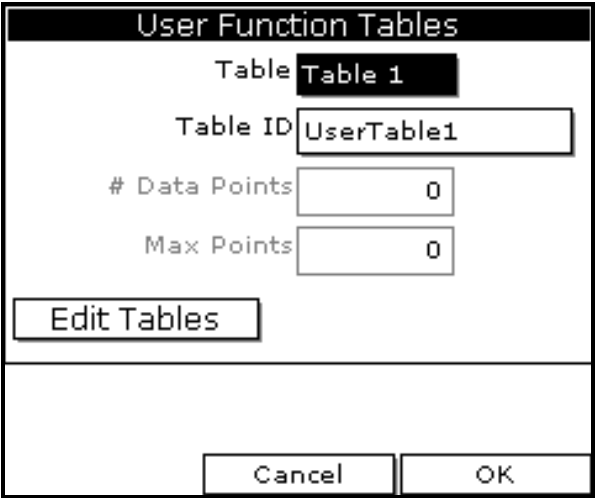

Figure 27: User Tables Window
- 3. Use the arrow key to scroll to User Tables and press [ENTER]. A screen similar to Figure 27 appears.